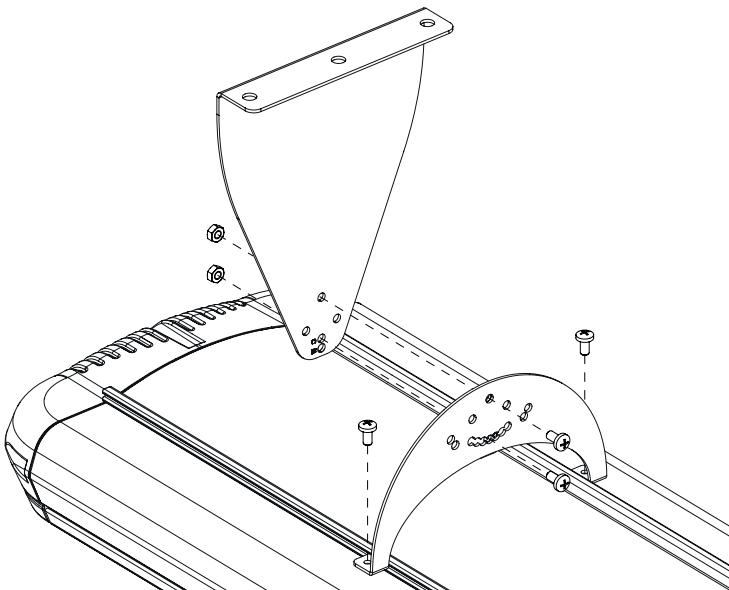

Fig.5
4. Align the holes of the brackets and join them together using the supplied bolts, setting the desired inclination. Fig.5.